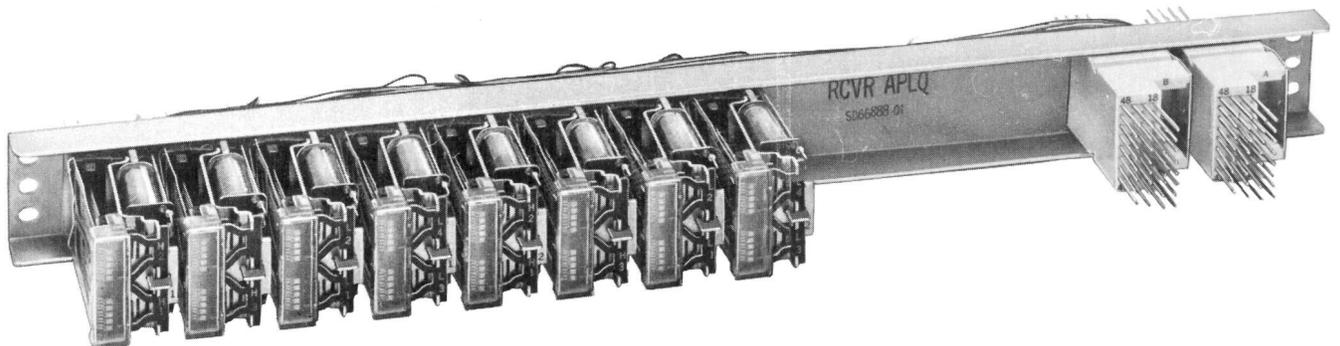

Fig. 12—J58847AE, List 1 TOUCH-TONE Calling Applique Circuit
- One J58847AE, List 1 TTC receiver applique unit (Fig. 12)
- (4) When TOUCH-TONE calling is required in addition to DSS, it must be engineered and installed locally as required.